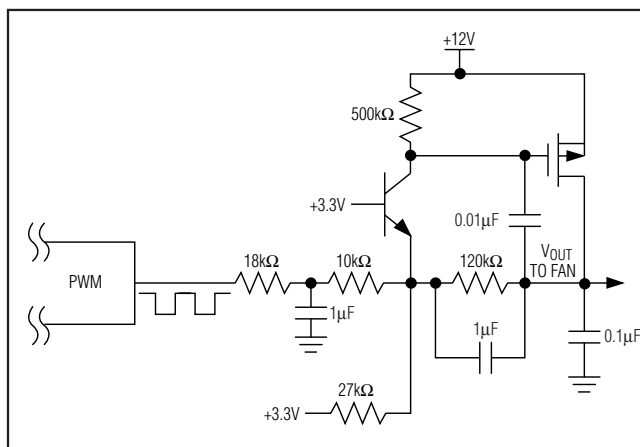

Figure 5. Driving a Fan with a PWM-to-DC Circuit
- 2) PWM_ is converted (using an external circuit) into a DC voltage that is proportional to duty cycle. This duty-cycle-controlled voltage becomes the power supply for the fan. This approach is less efficient than (1), but can result in quieter fan operation. Figure 5 shows an example of a circuit that converts the PWM signal to a DC voltage. Because this circuit
brushless DC motor has enough time to operate. When driving a fan with a PWM-to-DC circuit as shown in Figure 5, the highest available frequency (35kHz) should be used to minimize the size of the filter capacitors. When using a fan with a PWM control input, the frequency normally should be high as well, although some fans have PWM inputs that accept low-frequency drive.